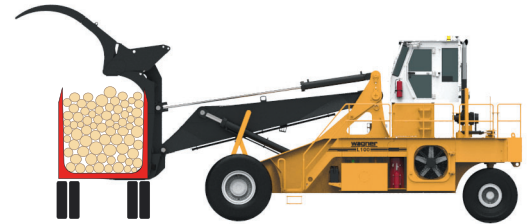

Figure 4-5-1 Moving Under the Load
1. Move the Logstacker up to a truck or trailer with the carriage in the following position (See Figure 4-5-1):